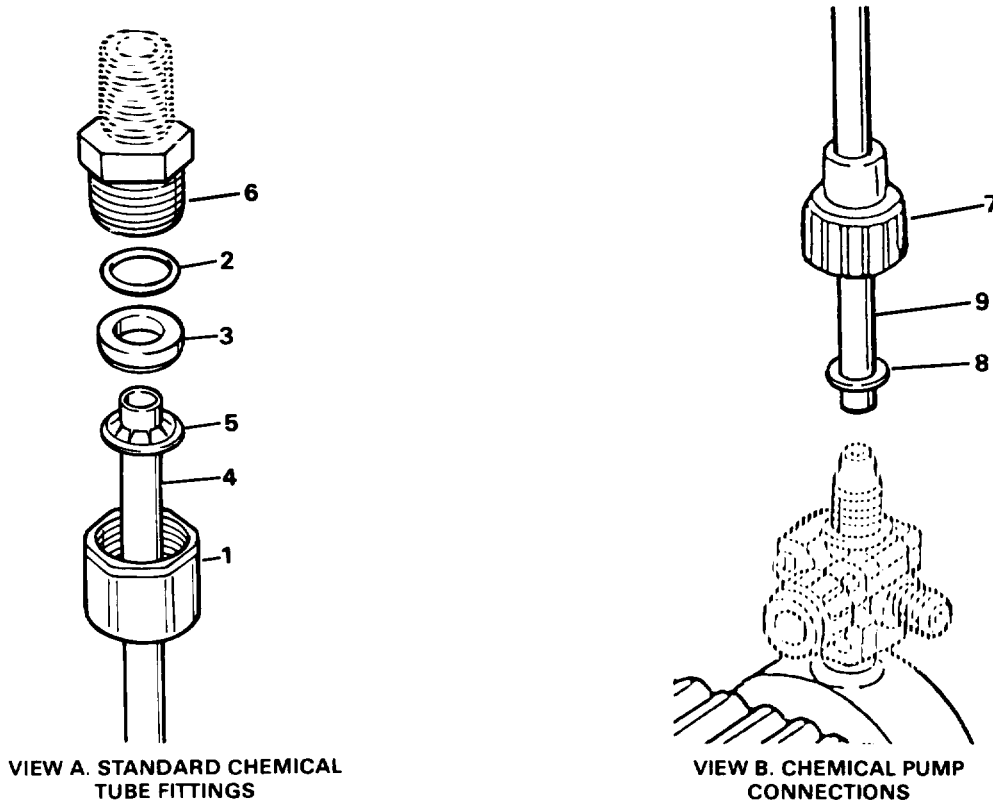

Figure 4-28. Chemical Tubing
- a. Standard tube fittings (Figure 4-28, View A).
- (1) Unscrew nut (1) by hand.
- (2) Cut any wire ties securing tubing (4) to walls or ceiling and remove tubing.
- (3) Remove preformed packing (2) and spacer (3).
- (4) Remove nut (1) and tubing (4), with compression fitting (5) attached, from fitting (6).
- b. Chemical pump connections (Figure 4-28, View B).
- (1) Unscrew nut (7) and pull out on tubing (9). Remove washer (8).
- (2) Cut any wire ties securing tubing (9) to walls or ceiling and remove tubing (para. 4-10).
- a. Tighten all loose fittings (6) or use antiseize tape on male threads to stop leaks.
- (1) Install nut (1), new compression fitting (5), new spacer (3) and preformed packing (2) onto tube (4).
- (2) Insert assembled tubing (1 thru 5) into fitting (6).
- (3) Hand tighten nut (1) into fitting, compression fitting (5) will lock tubing in place.
- (4) Install new wire ties to secure tubing to wall and ceiling attachment points (para. 4-10).
- (1) Install washers (8) on tubing (9).